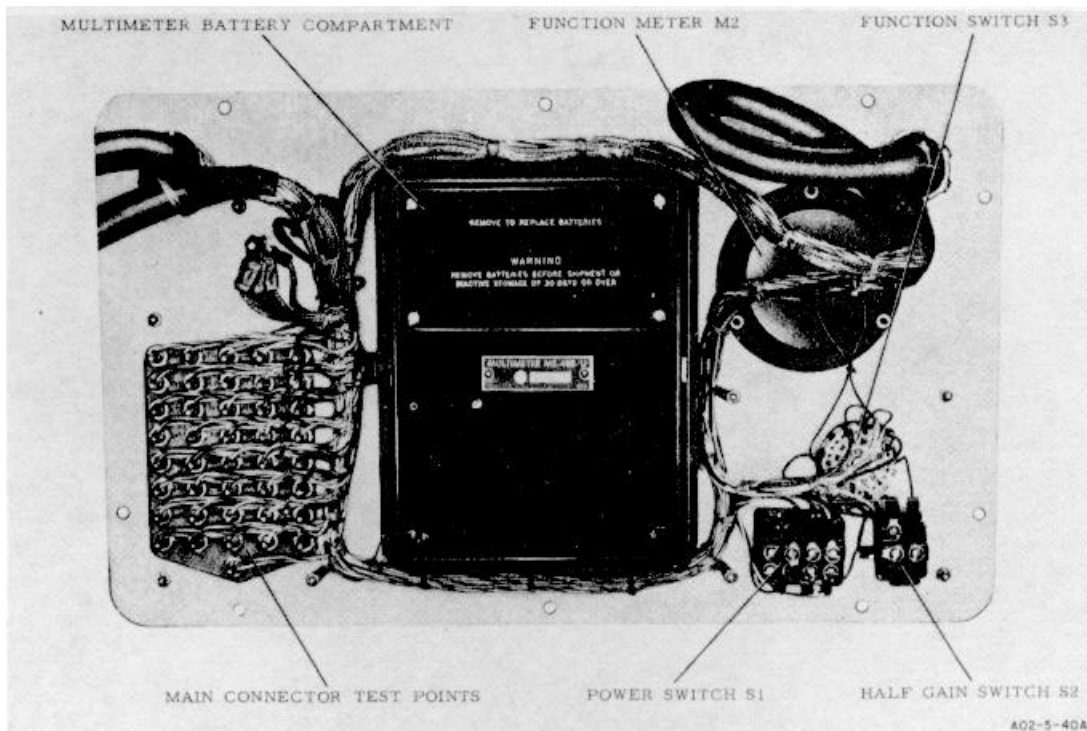

Figure 3-1. Rear View of Panel and Multimeter
c. Remove the four screws and the battery compartment cover from the rear of the multimeter. (See figure 3-1.)